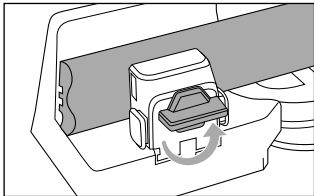

Fig. 11
- ◆ Turn the locking button **5** anticlockwise to release the wooden workpiece (see fig. 11).